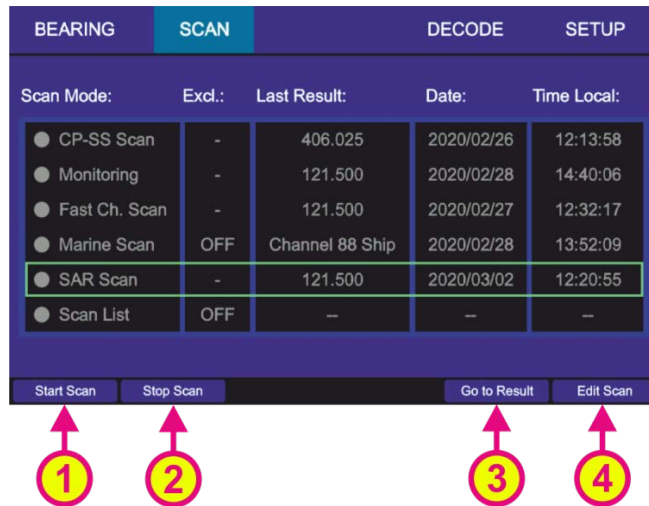
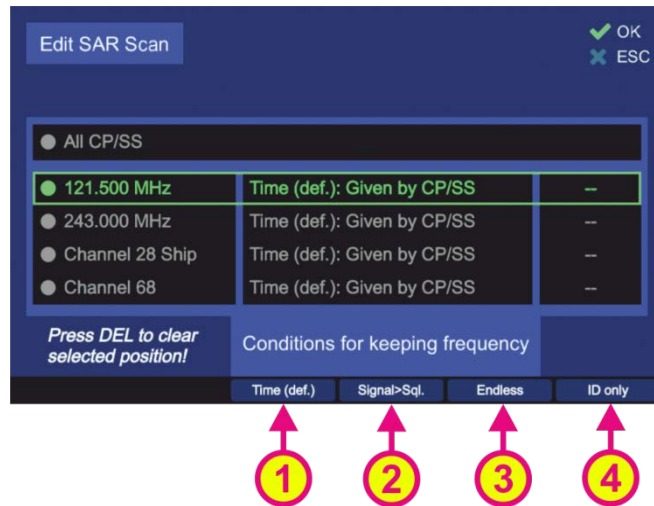

Fig. 49 Selecting SAR scan
Fig. 51 SAR scan. Edit scan settings
- To start the “SAR scan” mode select the corresponding line on the “Scan” page and press “OK” or the hotkey “Start Scan” (s. Fig. 49, position 1).
- Pressing the hotkey “Stop Scan” (s. Fig. 49, position 2) will terminate the current scan mode and change to the bearing of the frequency, that was set before the scan mode has been activated.
- Pressing the hotkey “Go to Result” (s. Fig. 49, position 3) during the scan mode is currently running, will terminate the scan mode, adopt the frequency which was found in this scan last time and change to the “Bearing” page. Pressing the hotkey “Go to Result” if the scan mode is not activated, will lead to the “Bearing” page adopting the last result as the bearing frequency. This hotkey appears only, if there is a result for this scan.
- Pressing the hotkey “Edit Scan” (s. Fig. 49, position 4) opens the dialog for changing the SAR scan settings (s. Fig. 51).
The hotkey “Edit Freq.” opens the input dialog that allows the modification of the currently marked frequency (s. Fig. 32 and its description in 6.2.2.4). This hotkey only appears for the frequencies that are configurable (the last two displayed frequencies: Channel 28 Ship and Channel 68, s. Fig. 51).
- Pressing the hotkey „Time (def.)“ (s. Fig. 51, position 1) will set the hold time (duration of staying in the scanning on this particular frequency) to the value that is given by the CP-SS setting (30/N or 45/N), s. 6.2.5.1.
- The hotkey “Signal>Sql.” defines the behavior of the scan algorithm to “signal level > squelch level” (s. Fig. 51, position 2). If this hotkey is pressed, the scan algorithm will stay on the active frequency until the signal level value becomes higher than the squelch value.
- The hotkey “Endless” (s. Fig. 51, position 3) defines the behavior of the scan algorithm when an active frequency has been found.
- Pressing the hotkey “ID only” (s. Fig. 51, position 4) activates or deactivates the feature “ID Only” (s. 6.2.2.3):